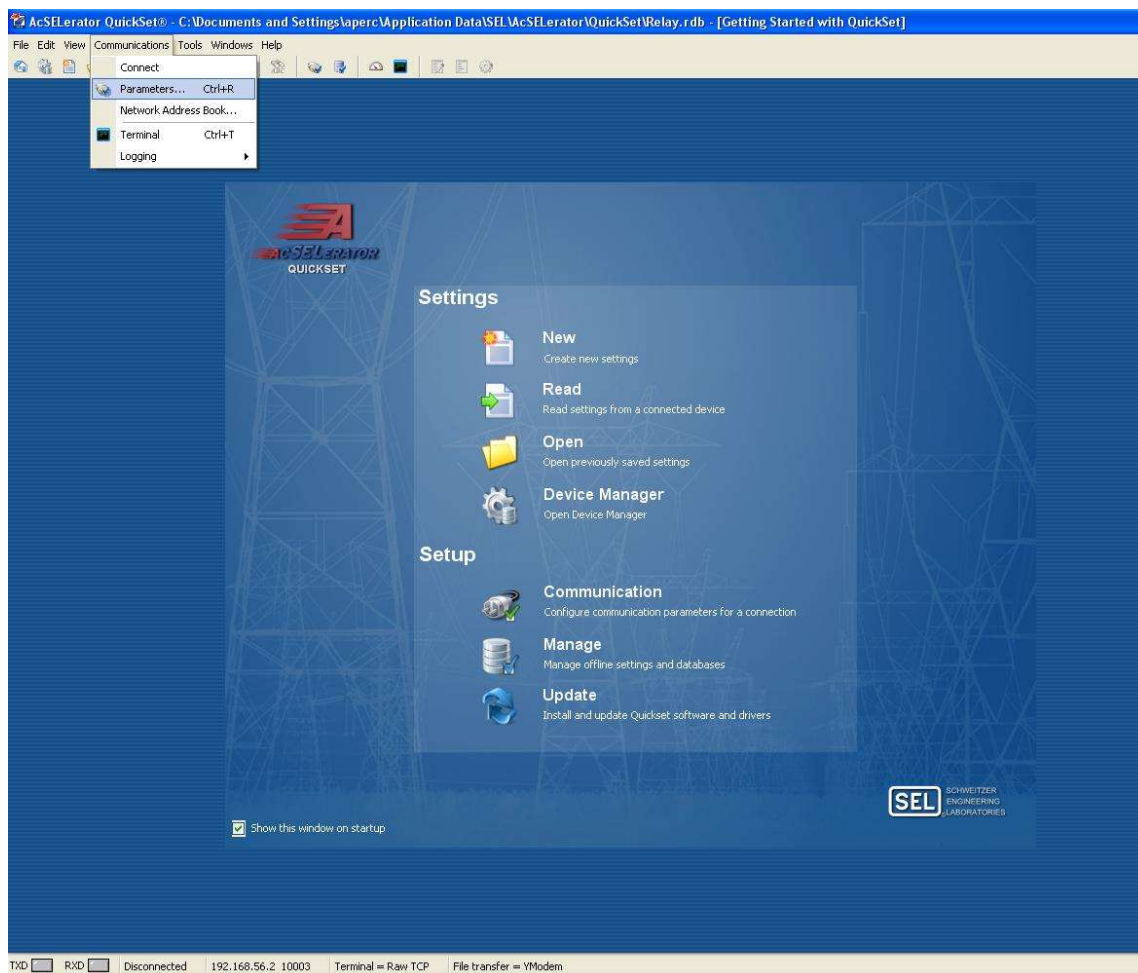

Figure 4.24 Accessing communication parameters from the main menu.
- 2) From the main menu go to Communications → Parameters as shown in Figure 4.24.